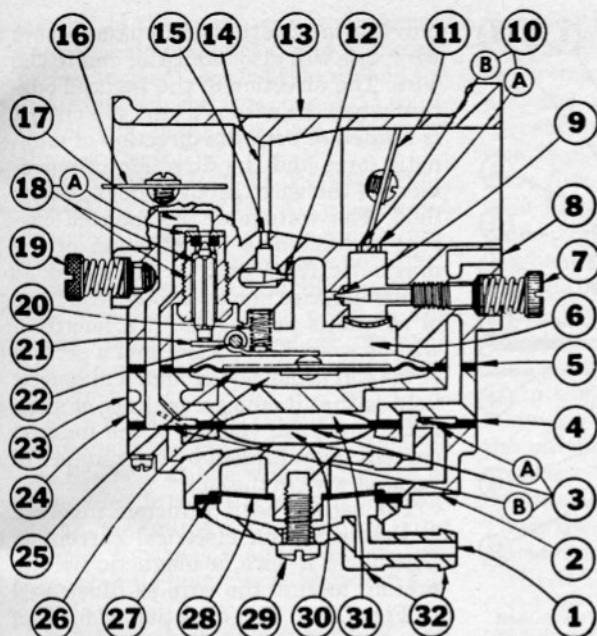

Fig. CS8—Cross-sectional schematic view of Tillotson series HL diaphragm carburetor. Some models of this type carburetor are equipped with an accelerator pump.
A cross-sectional schematic view of a typical Tillotson series HL diaphragm type carburetor with integral fuel pump is shown in Fig. CS8. The top of the pump diaphragm is vented to the engine crankcase through the channel (8). As the diaphragm pulsates, fuel is drawn into the carburetor through inlet (1), screen (28) and pump inlet valve (3A). The fuel is then pumped through the outlet valve (3B) into the supply channel (17). Engine suction through the main jet (15) and idle jets (10) is transmitted to the top of the car-